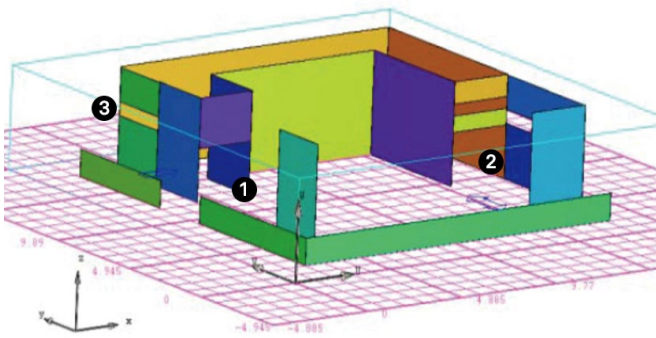
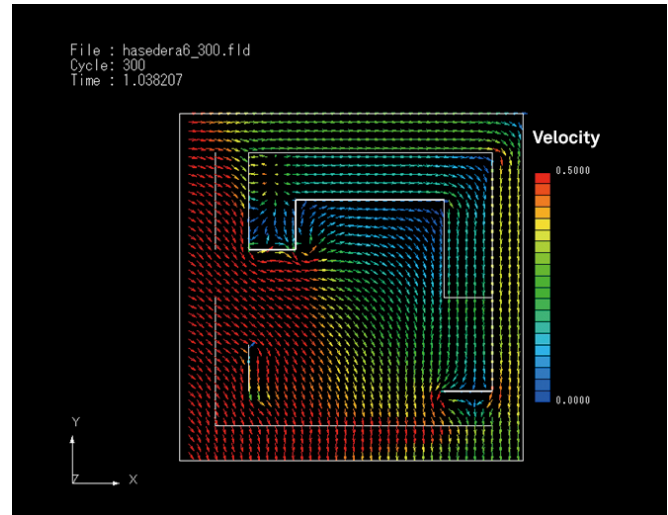

Fig. 5: Overview of temple interior space
Fig. 6: Analysis results of temple interior space
(Fig. 5). Calculations were made assuming that the wind blew due east at 0.5m/s. Dr. Inuzuka simulated the airflow inside the hall, when using a (1)air inlet, (2)air outlet, and (3)slit gap. From the results (Fig. 6), Dr. Inuzuka confirmed the ventilation effects created by the slit gap and a vent hole for the air outlet.